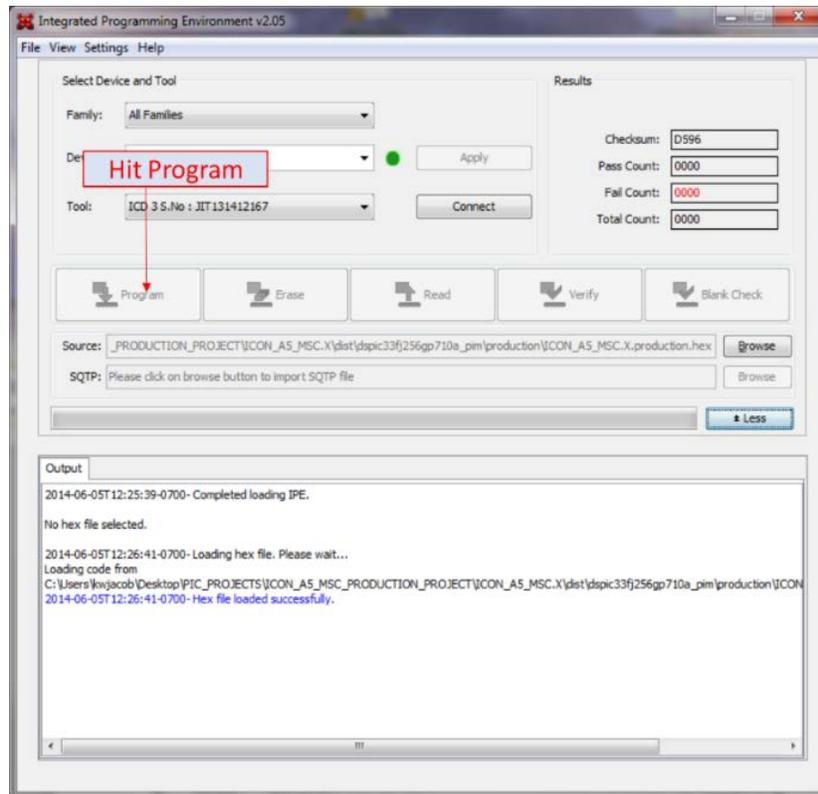

Figure 7: Program
13. Once the file has been opened, status show indicating that the file has been loaded as shown in Figure 7. The hex file should say “file loaded successfully”
- Hit Program, the MSC should program properly at this point. It will automatically reset and start the new code when it is done. The program will indicate status success once the hex is loaded onto MSC, Figure 7.